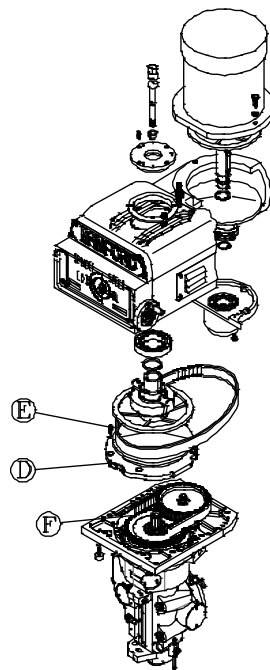

Fig. 7-3
7.4 Motor Timing Belt Replacement (Variable speed head) (Fig. 7-3)